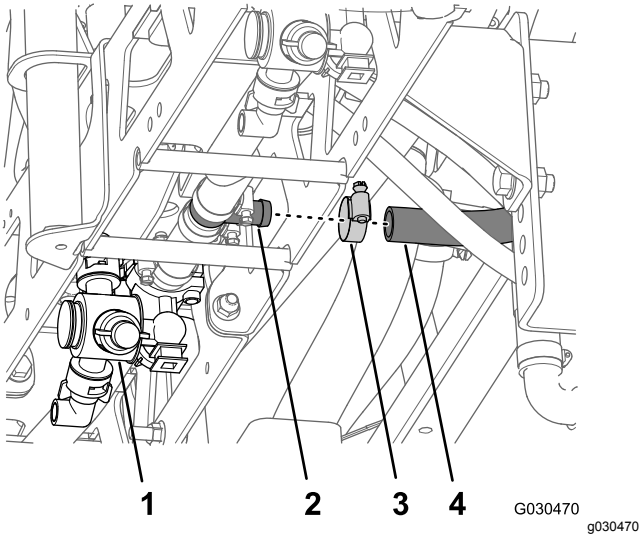

Figure 62
4. Adjacent to the center sprayer nozzle, remove the hose clamp and boom hose from the barbed T-fitting (Figure 62).